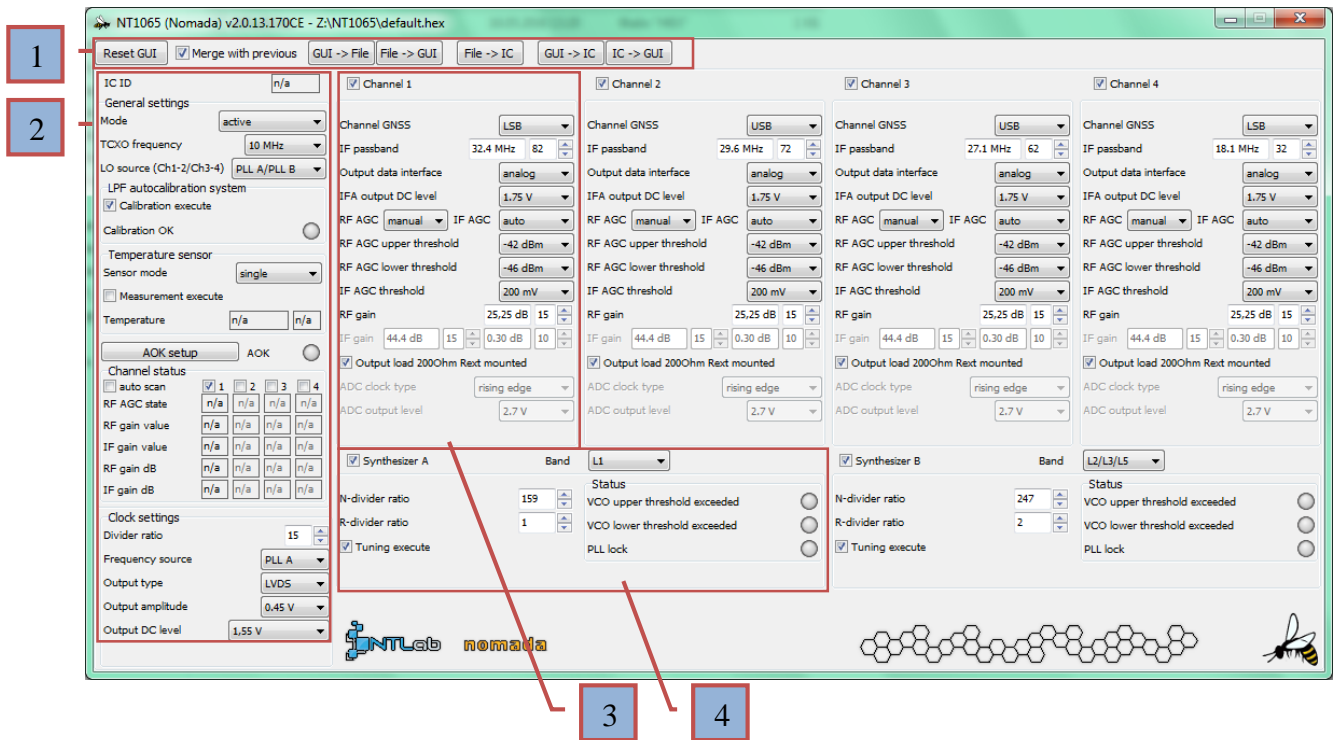

Figure 5.1: Receiver settings tab
Go to the software folder and run **NT1065\_v2.1.xCE.exe** or later. Program interface window (Figure 5.1).
1. Figure 5.1 Block 1:
2. Figure 5.1 Block 2:
3. Figure 5.1 Block 3:
4. Figure 5.1 Block 4: